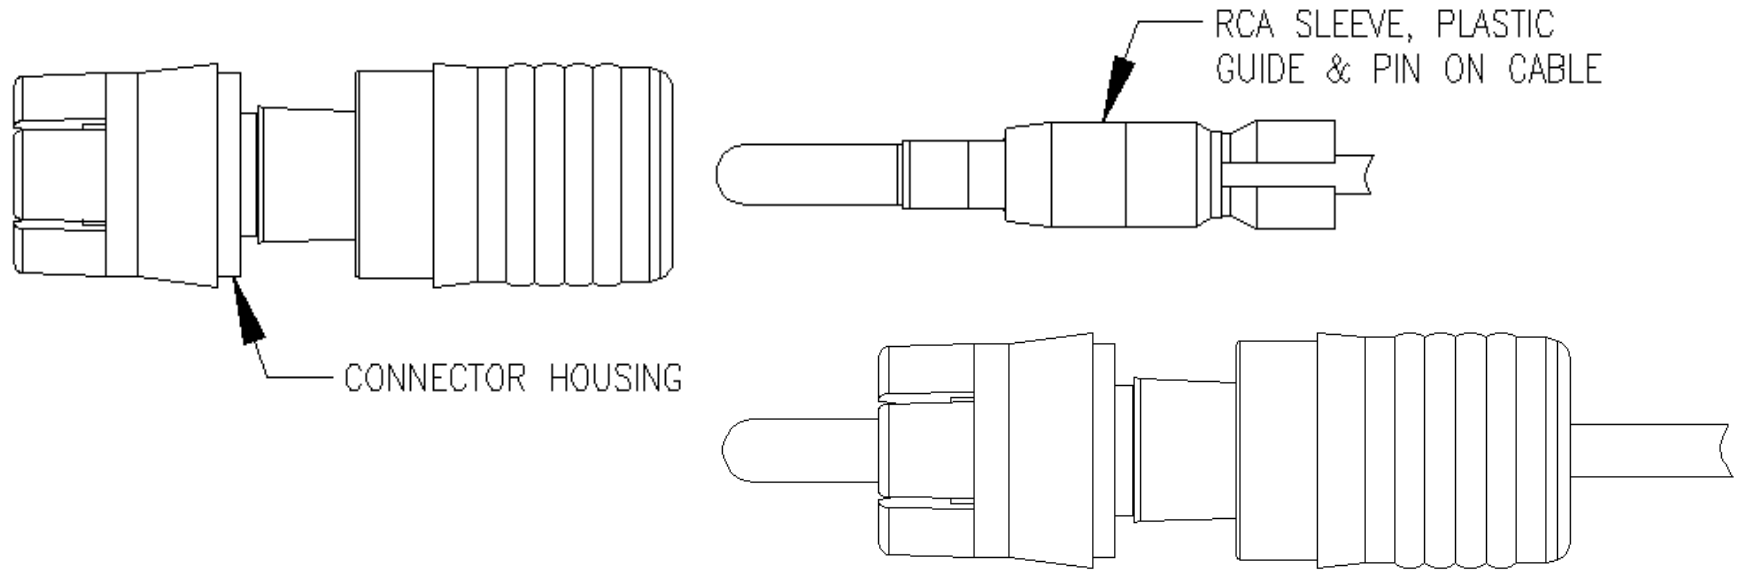

FIGURE 5
5) Insert the assembled cable with sleeve into the connector housing as shown in figure 5.